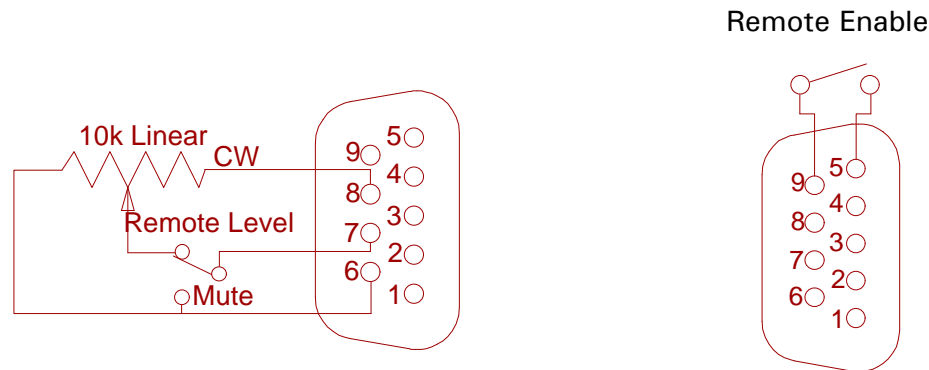

Figure 1
9. **REMOTE:** The remote muting and level control for the MAIN OUT, and the remote enable of the LEVEL-MATIC circuitry are accessed via this DB-9 connector. See Figure 1.
When using the remote enable function, the LEVEL-MATIC BYPASS switch, located on the front edge, must be placed in the (BYPASS) position. A contact closure of pin 5 to pin 9 (ground) of the DB-9 connector, will enable the LEVEL-MATIC circuitry. Refer to Figure 1.